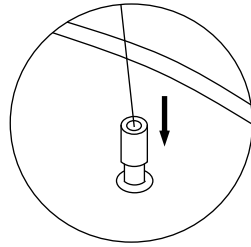

Fig 11
8. Attach the string to holder (Fig 11).